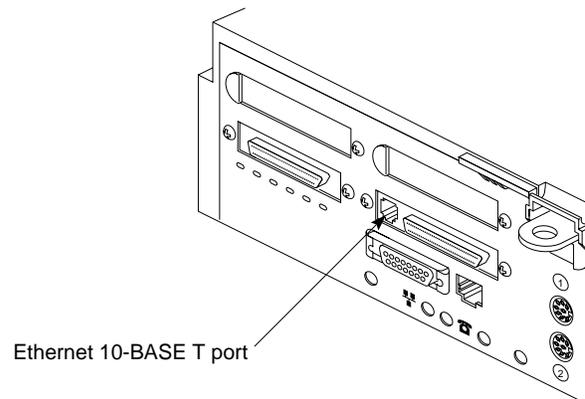

Figure 3-5 Connecting an Ethernet 10-BASE T Cable to the Challenge S Server (S-100 and S-150 Models)
2. Plug one end of the cable into the port in between the two SCSI connectors on the back of the Challenge S server, as shown in Figure 3-5. Note that the Ethernet 10-BASE T and the ISDN port below it look similar. The Ethernet 10-BASE T port is the one on top, immediately next to the SCSI connector, as shown below.